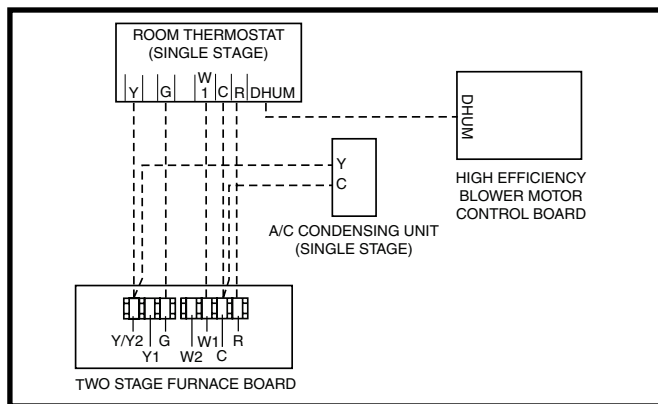
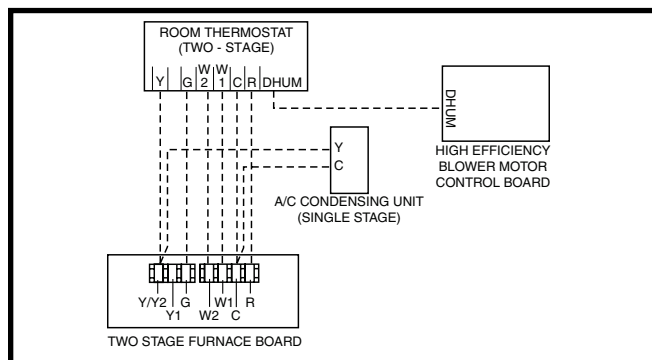
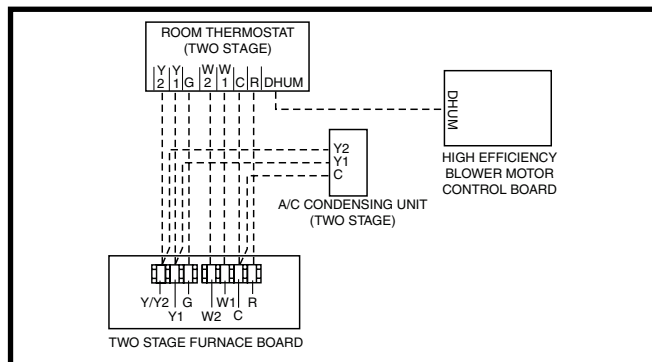

Figure 20. Wiring Configuration 1
Figure 21. Wiring Configuration 2
Figure 22. Wiring Configuration 3
- Connect the thermostat's **W** output to the furnace control boards **W1** terminal. This allows the furnace to always run in low output mode. See Figure 20.
This option uses the full two stage heating capability of the furnace with a single stage outdoor unit. See Figure 21.
This option uses the full two stage heating capability of the furnace with a two stage outdoor unit. See Figure 22.
The Autostaging feature makes it possible to use a single stage thermostat and still receive some of the benefits of 2-stage furnace operation. If Autostage is enabled, the furnace will drop to **LOW** fire after initially starting in **HIGH** fire. After a period of 10 minutes, the furnace will then stage up to **HIGH** fire, until the heating load is met. See Figure 20 and the Low Voltage Connection section on page 22.
- ✓ Verify that all needed thermostat wires are securely connected to the correct leads on the terminal strip of the circuit board. See Figure 20 \(page 22\), Figure 21 \(page 22\), & Figure 22 \(page 22\).
The operating sequences for the heating, cooling, and fan modes are described below. Refer to the field and furnace wiring diagrams: Figure 19 \(page 21\), Figure 20 \(page 22\), Figure 21 \(page 22\), Figure 22 \(page 22\), Figure 30 \(page 32\) & Figure 31 \(page 33\).